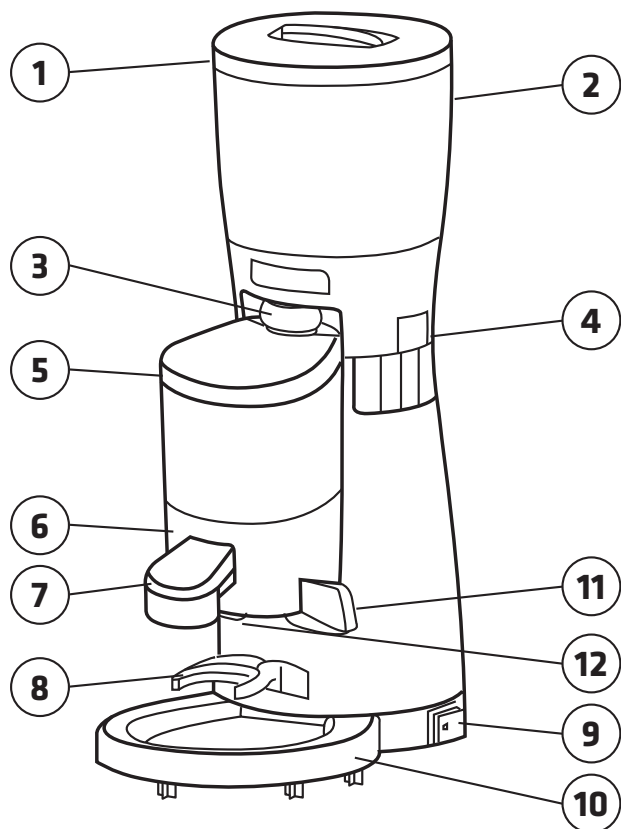

Fig. 1a
Legend (Fig. 1a)
- Place the filter holder in the filter holder fork (Fig. 1-8), pull the dosing lever (Fig. 1a-11) firmly towards you and release, repeating the action for each dose of coffee required.
- Level out the coffee contained in the filter, position the filter holder under the tamper (Fig. 1a-7) and raise gently to tamp the coffee;